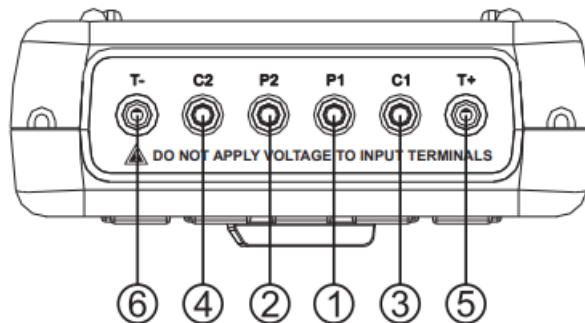

Figure 2
- 4 Input Terminals Description (Figure2)
Input Terminals Description (Figure2)